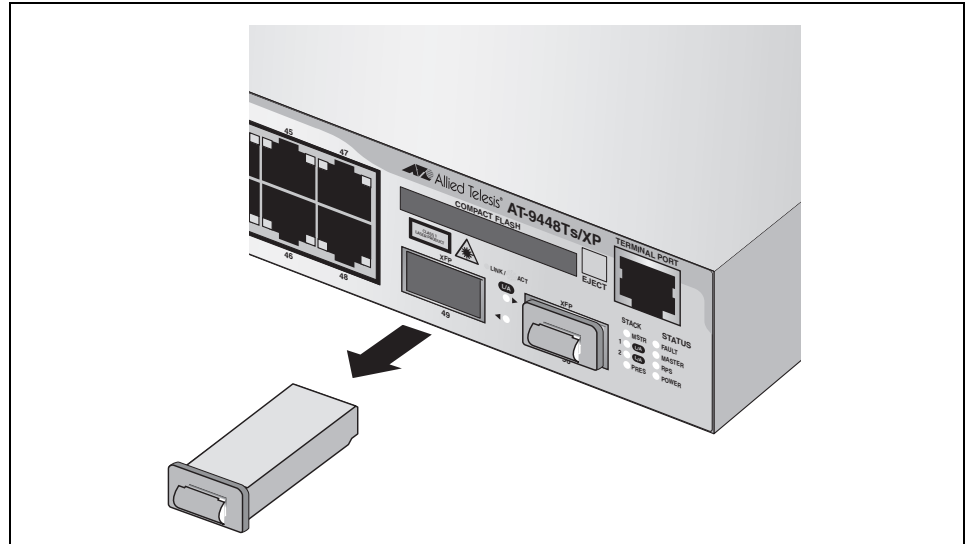

Figure 24. Removing an XFP Dust Plug
1. Remove the dust plug from a transceiver slot on the switch. Refer to Figure 24.